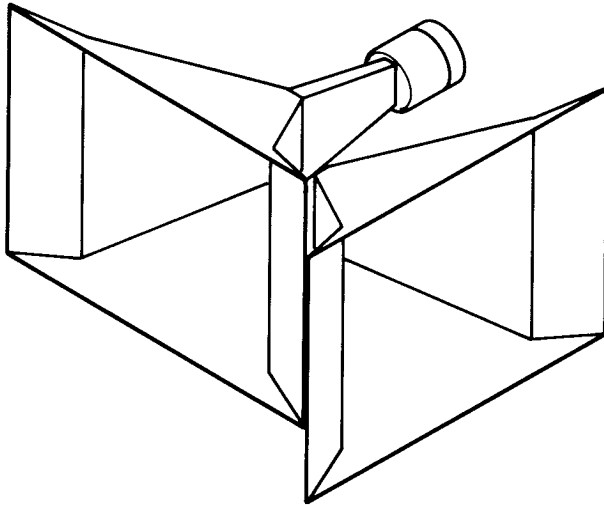
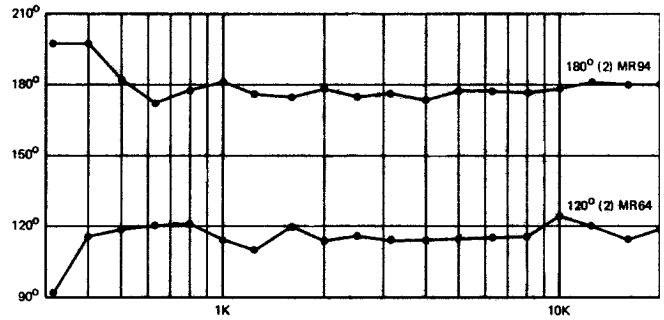

Figure 6A: Recommended Method of Doubling the Horizontal Coverage of a Pair of MANTARAY's
Figure 6C: - 6 dB Angles vs Frequency for a Pair of MR94's and a Pair of MR64's Arrayed as Shown in Figure 6A
3) For doubling the horizontal coverage angle of a pair of MANTARAY MR94's, we recommend the stacking/splaying method illustrated in Figure 6A and 6B. This method uses minimal overlapping to produce a smooth 180° horizontal polar response. The vertical coverage of this pair remains constant at 40°. While only one horizontal polar pattern is shown, the horizontal polar patterns at other frequencies are similar — all the way from below 800 Hz to above 16 kHz. Similarly, a pair of MR64's will produce a smooth 120° horizontal polar response as shown in Figure 6C. This means that you have a choice of 20°, (an MR42 turned sideways), 40°,